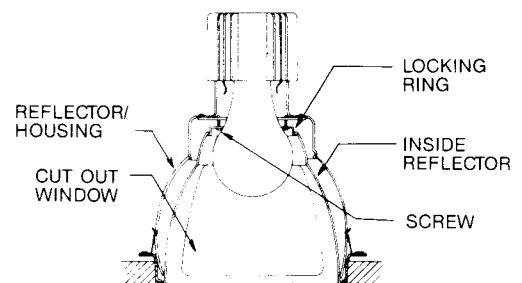

FIG. 4
1. To install INSIDE REFLECTOR in REFLECTOR/HOUSING with SCREWS (Fig. 4), push INSIDE REFLECTOR up into REFLECTOR/HOUSING. Align keyslots in LOCKING RING and insert onto the SCREWS on REFLECTOR/HOUSING. Rotate INSIDE REFLECTOR clockwise so that CUT OUT WINDOW is always opposite the wall to be lighted. Now, tighten the SCREWS so that INSIDE REFLECTOR is held firmly against ceiling surface.